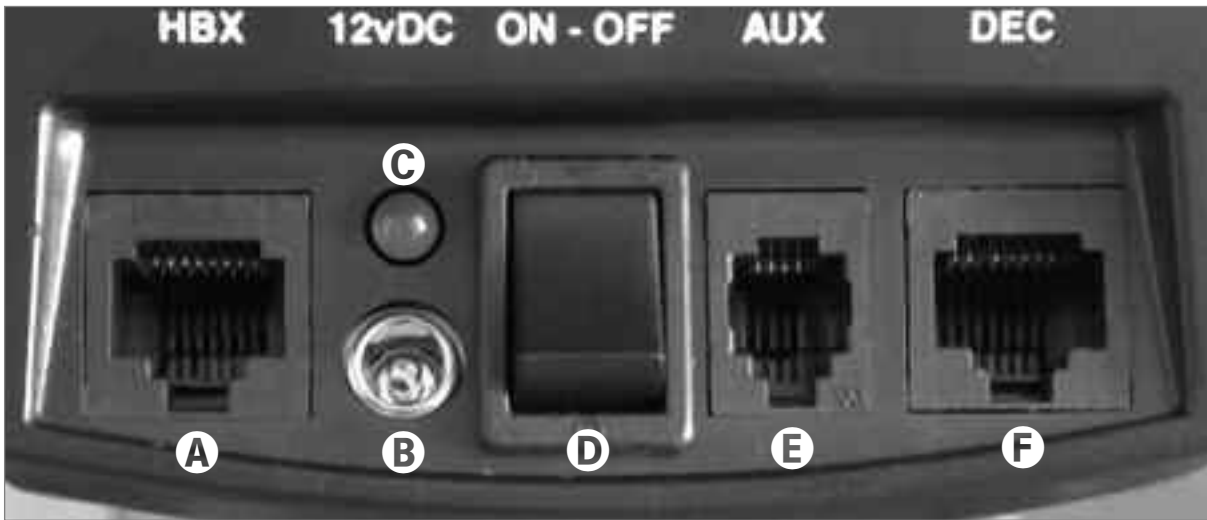
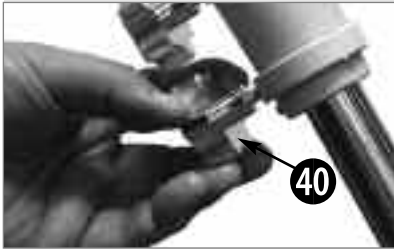

Fig. 1e: The LX75-Series Computer Control Panel (see 24 above).
Fig. 1f: The tripod leg lock knob.
- 24 **Computer Control Panel (see Fig. 1e):**
- 38 **Variable Height Tripod Legs (3):** Supports the telescope mount. The mount attaches to the top of the tripod.
- 41 **Battery Pack and holder (see Fig. 1f):** Plug into the 12v DC power connector (B, Fig. 1e) of the computer control panel. Insert 8 (user-supplied) D-cell batteries to power motor drives and Autostar handbox.